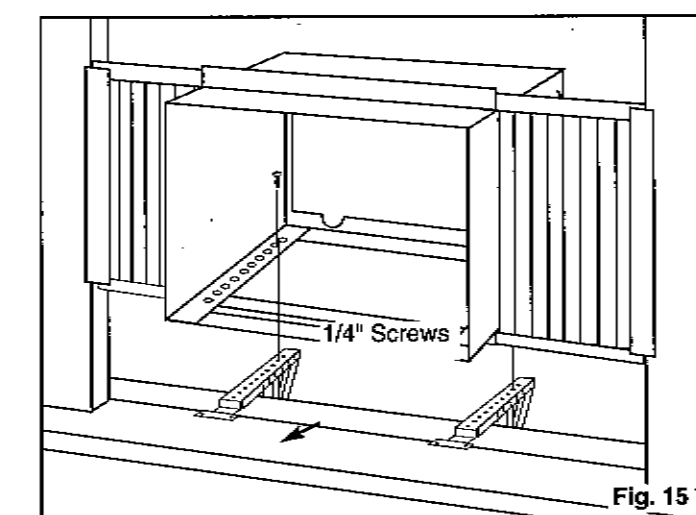

Fig. 15
- Align one hole in the bottom of the cabinet with one hole in the bracket assembly. Secure the cabinet to the bracket using a 1/4" screw provided. Repeat the same procedure on the opposite side of the cabinet. See Fig. 15